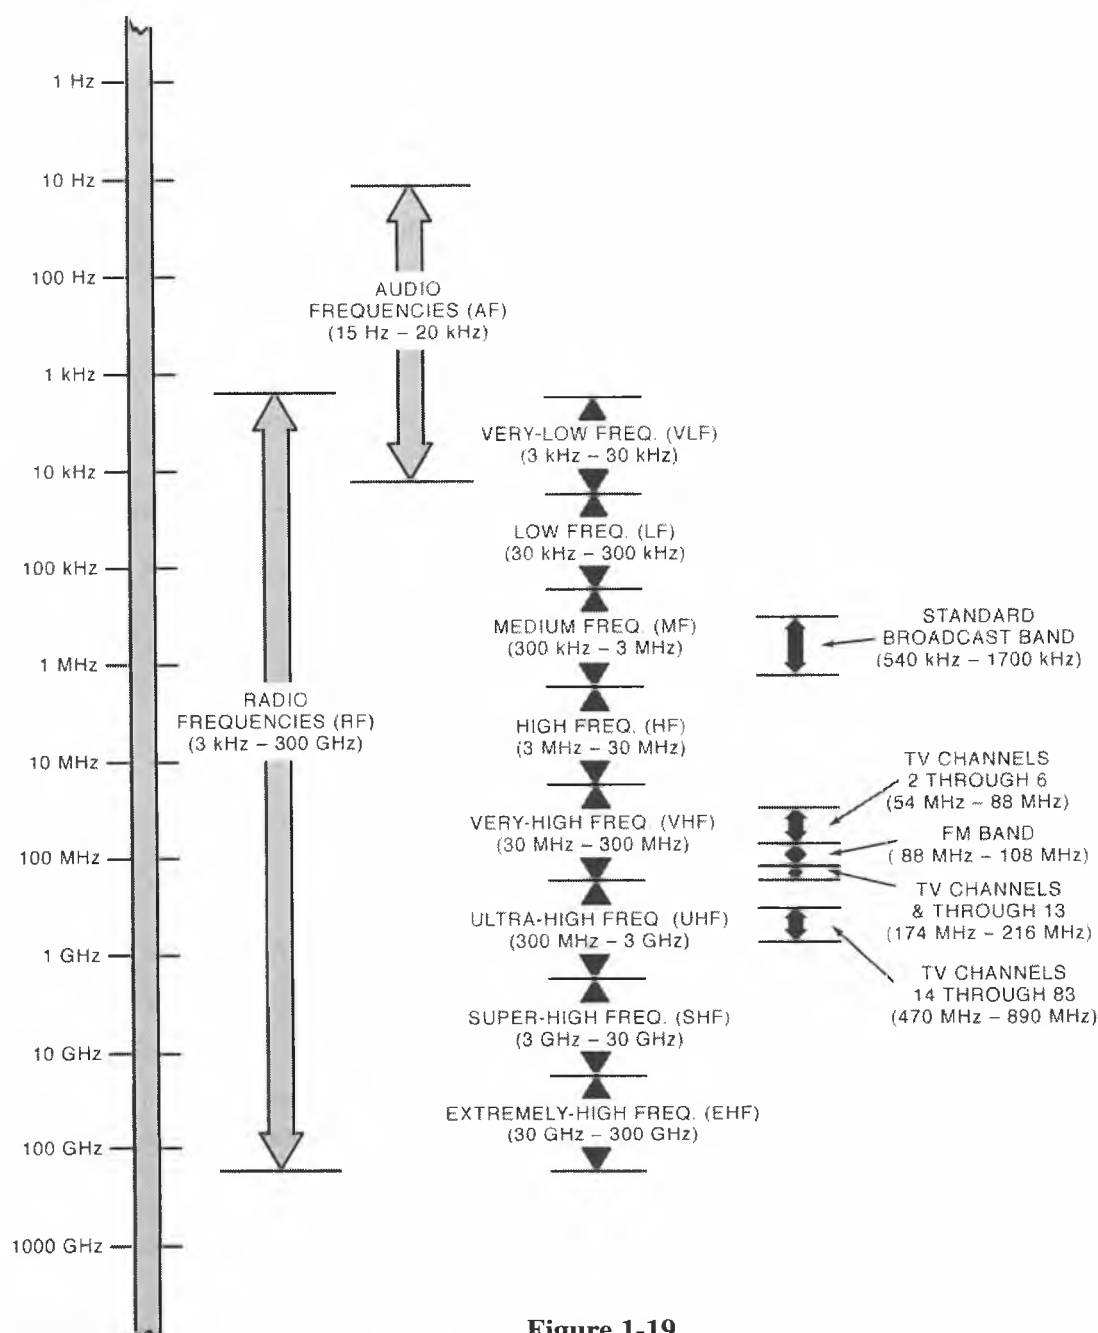

Figure 1-19
The frequencies that are most commonly used in electronic applications are shown in Figure 1-19. As shown in this Figure, the frequencies between 15 hertz and 300 GHz (300,000,000,000 hertz) are most widely used. The frequencies between 15 hertz and 20 kHz (20,000 hertz) are referred to as audio frequencies (AF) as shown. The AC current that has a frequency in this range produces an audible tone to which the human ear responds. In many cases, the AC current must be applied to a device, such as a speaker, which converts the AC waveform into sound waves that can be detected by the human ear.
The frequencies within the eight RF bands are further divided into smaller bands which are allocated for specific applications. As shown in Figure 1-19, a small band of frequencies within the medium frequency (MF) band is identified as the standard broadcast band. This band of frequencies is used by commercial AM radio stations. Also note, that the television channels (2 through 6 and 7 through 13) and the FM band (used by FM radio stations) are within the very-high frequency (VHF) band. The higher television channels (14 through 83) are transmitted at higher frequencies which fall within the ultra-high frequency (UHF) band. These various frequency assignments (as well as others which have not been discussed) are controlled by an agency of the U.S. Government known as the Federal Communications Commission (FCC).
It is possible to produce frequencies which are higher or lower than those shown in Figure 1-19. However, above the upper RF limit (300 GHz), the characteristics of AC signals change considerably and they are no longer suitable for transmission through a wire or in the form of radio waves. Above this upper limit are other forms of electrical energy such as light waves, x-rays, and cosmic rays. Scientists assume that these various forms of energy occur as specified frequencies, even though they have many additional characteristics which cannot be explained by conventional electronic theory.